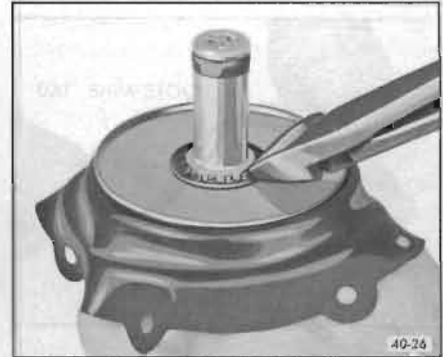

Figure 40-28—Removing Diaphragm Retainer
1. Remove diaphragm retainer with diagonal pliers and discard retainer. See Figure 40-28.